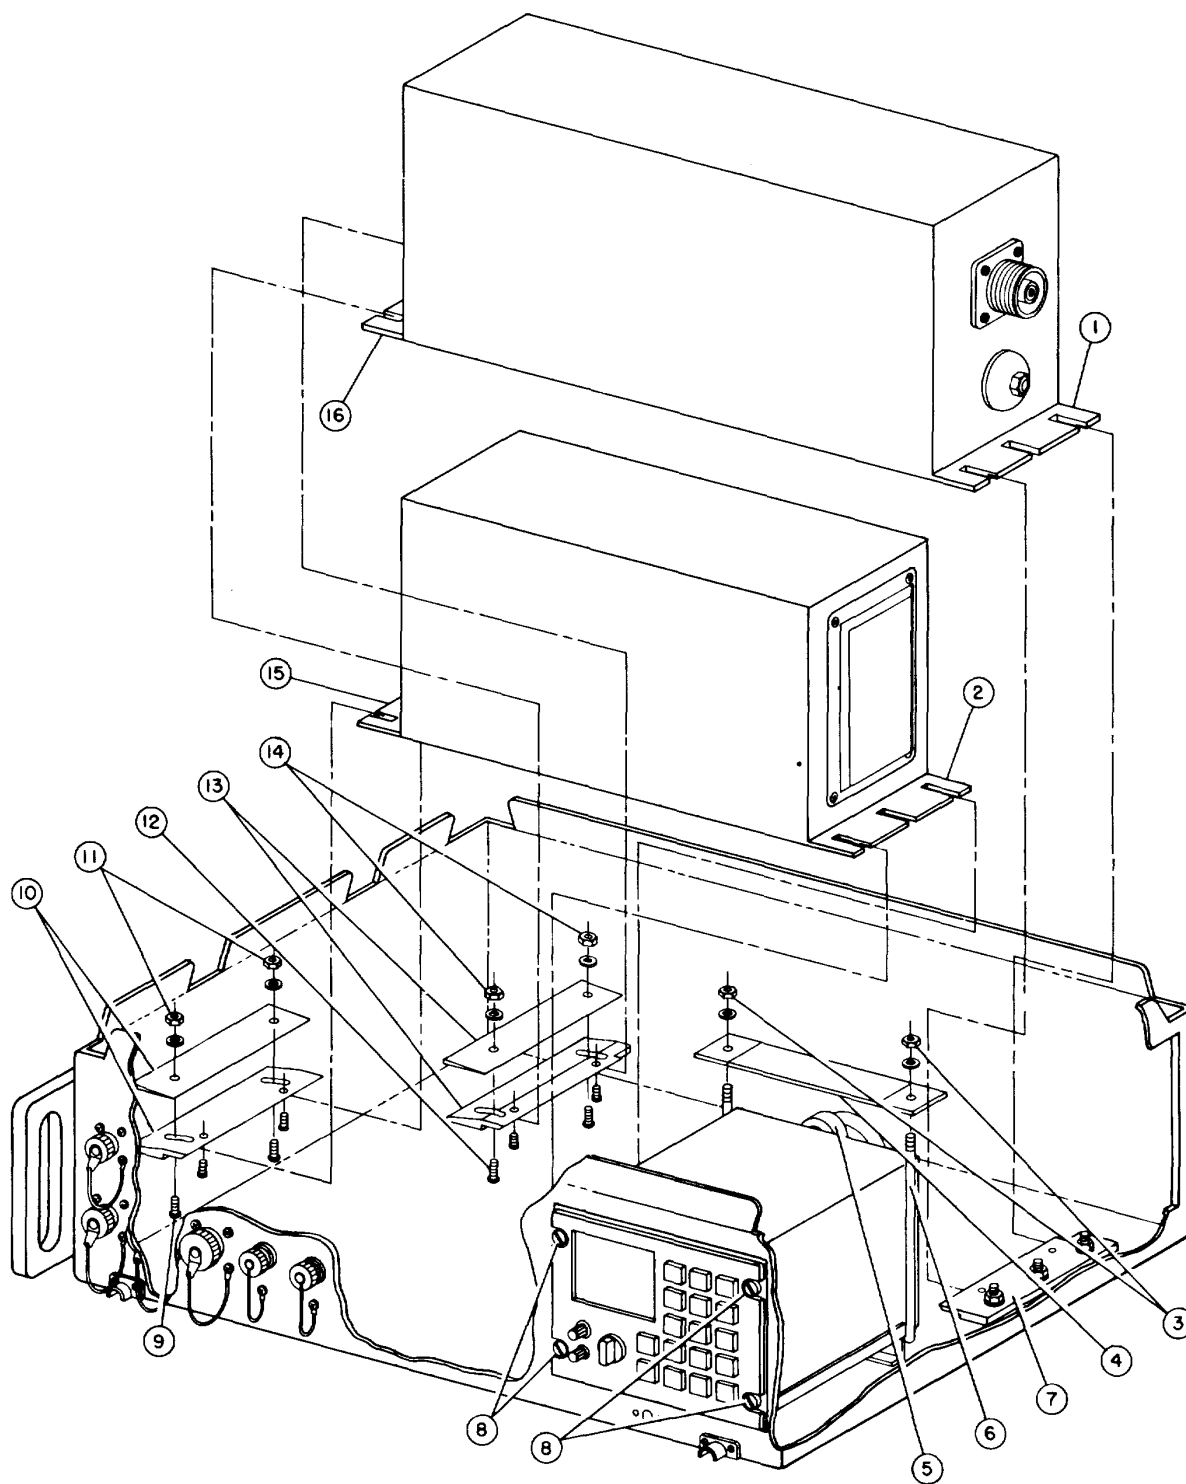
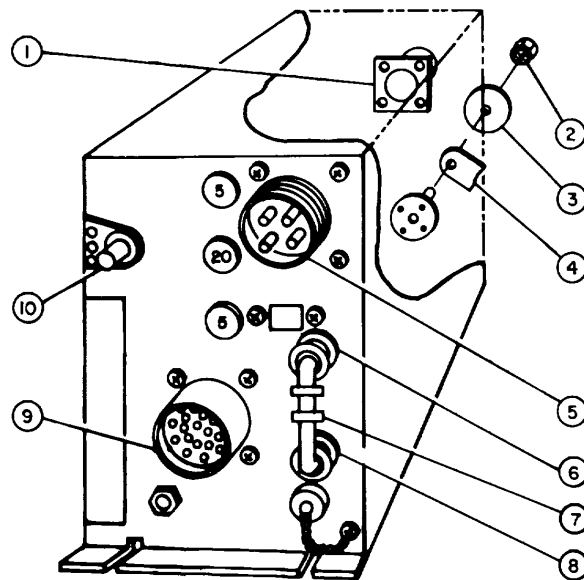
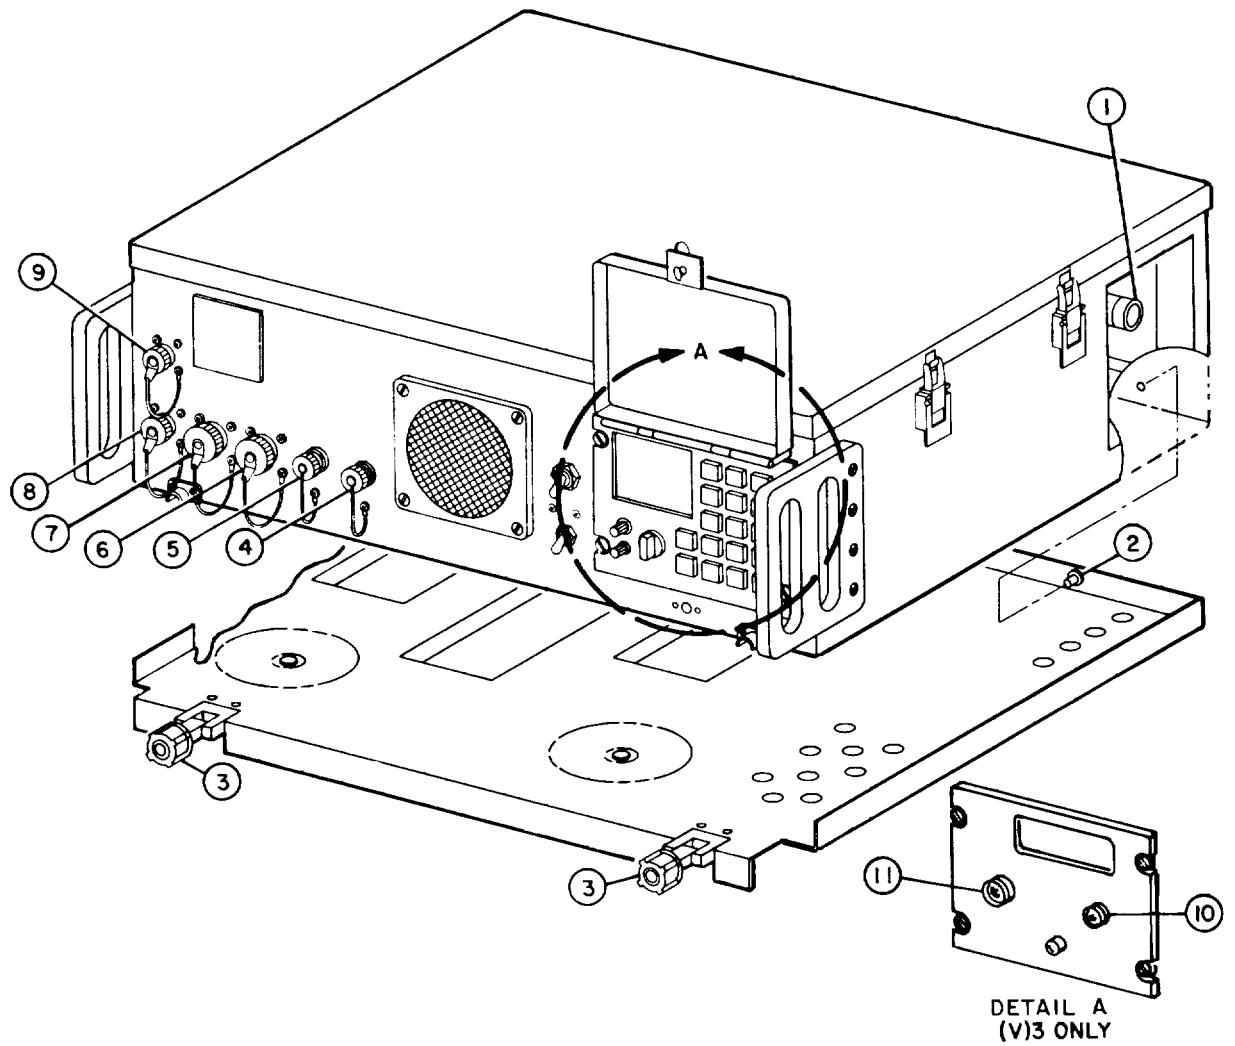

Figure 3-1. MX-10485/VRC-86 Electronics Box
Figure 3-2. AM-7201/U Amplifier-Coupler Connectors and Grounding Strap
Figure 3-4. MX-10485/VRC-86 Electronics Box Mounting, Typical
- (1) Remove cover of electronics box (not shown).
- (2) Turn quarter-turn fastener on control-display cover on front of electronics box. Raise cover to open position (not shown).
- (3) Refer to figure 3-1. Remove cable connector from J9711 (5) located on rear of control-display.
- (1) Loosen four captive retaining screws on front panel (these are the same as item 8, fig. 3-1).
- (2) Slide control-display out of mount to gain access to rear connector J9711 and remove cable connector.
- (1) Connect cable connector to J9711 on rear of control-display.
- (2) Position control-display in mount and tighten four captive retaining screws on front panel (these are the same as item 8, fig. 3-1).
- (1) Remove cover of electronics box.
- (2) Refer to figure 3-2. Remove cable connectors from J9725 (1); then, J9726 (5); then, J9721 (10); then, J9724 (9).
- (3) For the (V)3 configuration, remove cable connectors from J9722 (8) and J9723 (6) and reinstall connector adapter (7) as described in paragraph 3-21.b.
- (4) Remove nut (2) and washer (3) from antenna ground post. Remove grounding strap (4).
- (5) Refer to figure 3-1. Loosen the two nuts and washers (14) securing the front hold-down assembly (13).
- (6) Slide the entire front hold-down assembly (13) away from the front lip (16) of the amplifier-coupler.
- (7) Slide the amplifier-coupler slightly toward the front hold-down assembly (13), freeing it from the rear hold-down assembly (7).
- (8) Remove the amplifier-coupler by carefully lifting it out of the electronics box.
- (2) Refer to figure 3-1. Install amplifier-coupler in mounting location by aligning rear lip of amplifier-coupler (1) in front of the rear hold-down assembly (6). Slide rear lip of amplifier-coupler (1) under the top of the rear hold-down assembly (7).
- (3) Slide the front hold-down assembly (13) over the front lip (16) of the amplifier-coupler.
- (4) Tighten the two nuts and washers (14) to the studs (12) of the front hold-down assembly (13).
- (5) Refer to figure 3-2. Place ground strap (4) on antenna ground post, install washer (3) and tighten nut (2).
- (6) Attach connectors to J9724 (9); then, J9721 (10); then, J9726 (5); then, J9725 (1).
- (3) Refer to figure 3-1. Loosen two nuts and washers (11) from the front hold-down assembly (10).
- (4) Slide entire front hold-down assembly (10) away from front the lip (15) of receiver-transmitter.
- (5) Slide receiver-transmitter rear lip (2) free from the rear hold-down assembly (not shown).
- (6) Grasp the receiver-transmitter with both hands and lift it from the mounting location in the electronics box.
- (1) Refer to figure 3-4. Loosen the two knurled nuts (3) that secure the electronics box to the mounting tray.
- (2) Remove connectors from J9725 (1), J9812 (4), J9813 (5), J9817 (6), J9811 (7), J9814 (8), J9816 (9), J118 (10), and J101 (11) as required.
- (3) Remove ground strap from ANTENNA GROUND below J9725 (1) as required.
- (4) Place connector dust covers on each of the front panel mounted connectors and close protective door over control-display or Y-interconnect.
- (5) Slide electronics box out of mounting tray.
- (1) Refer to figure 3-4. Place the electronics box in the mounting tray with the two guide pins (2) on the mounting tray inserted in the rear of the electronics box.